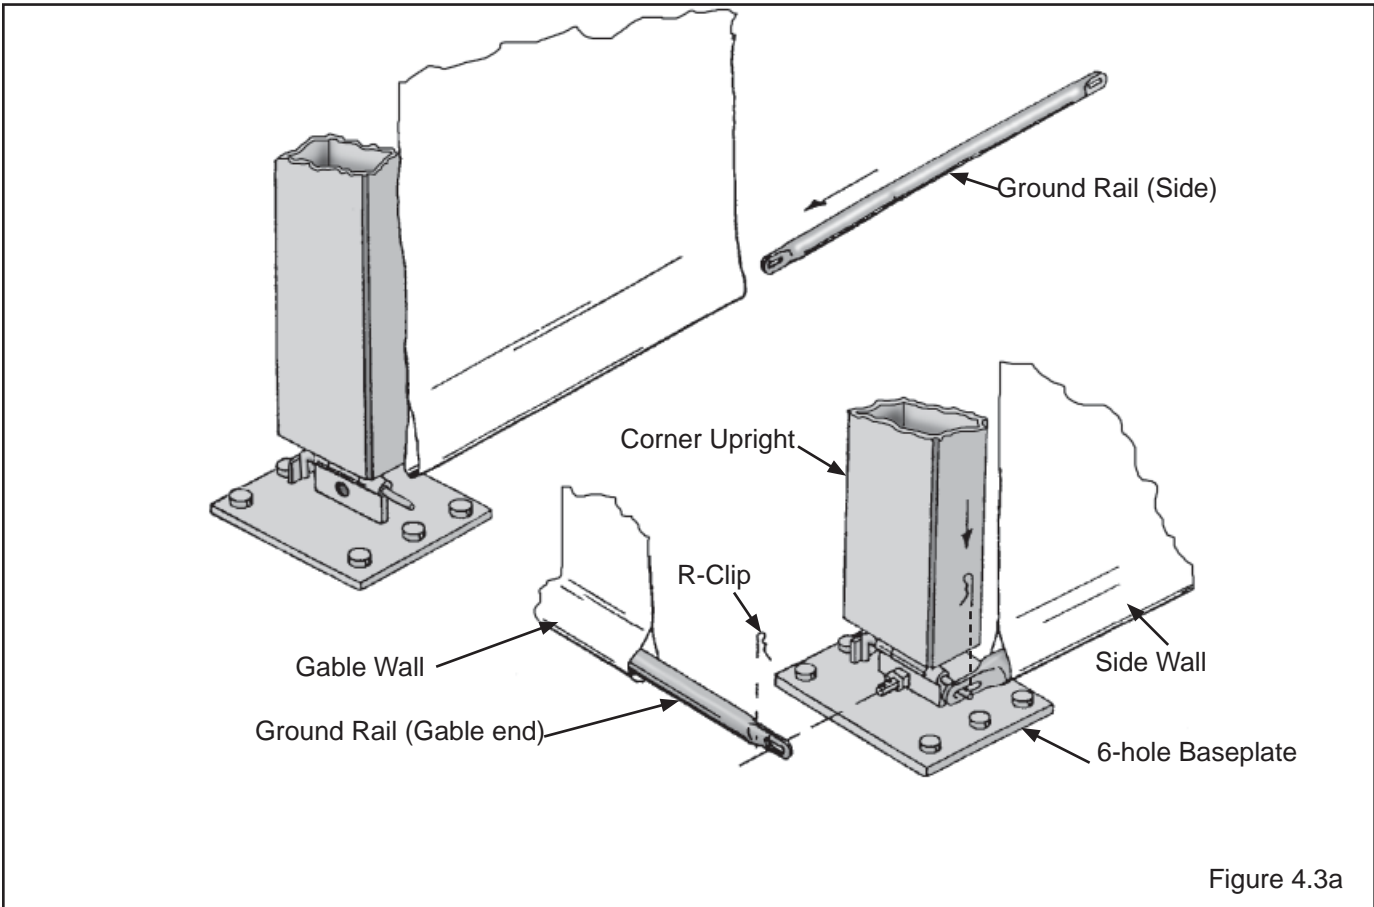

Figure 4.3a
- 4.3.3 Insert Ground Rails into bottom pocket of all mid walls and secure to base plate L-Pins at all mid uprights as shown in Figure 4.3a.
- 4.3.4 Insert Ground Rails into top pockets of all gable end walls and secure to end of cable bracing eyebolt at base of gable end corner upright (Fig. 4.3a) and to Gable End Base Plate L-Pin.